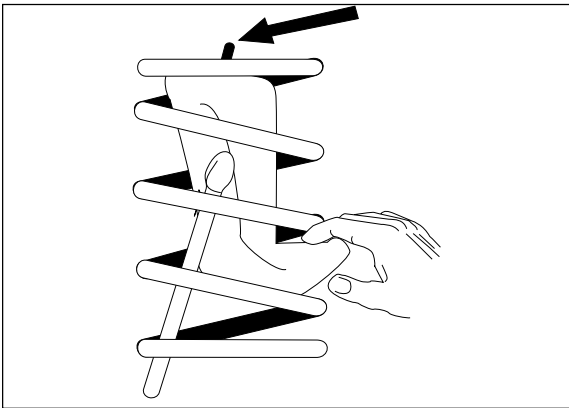

Figure 1
1. Insert flattened air cylinder into coil spring through lowest opening with stem at the top (Figure 1).
If the vehicle's headlights are shining into the trees or the vehicle is leaning to one side, then it is not level (fig. 1). Raise the air pressure to correct either of these problems and level the vehicle.